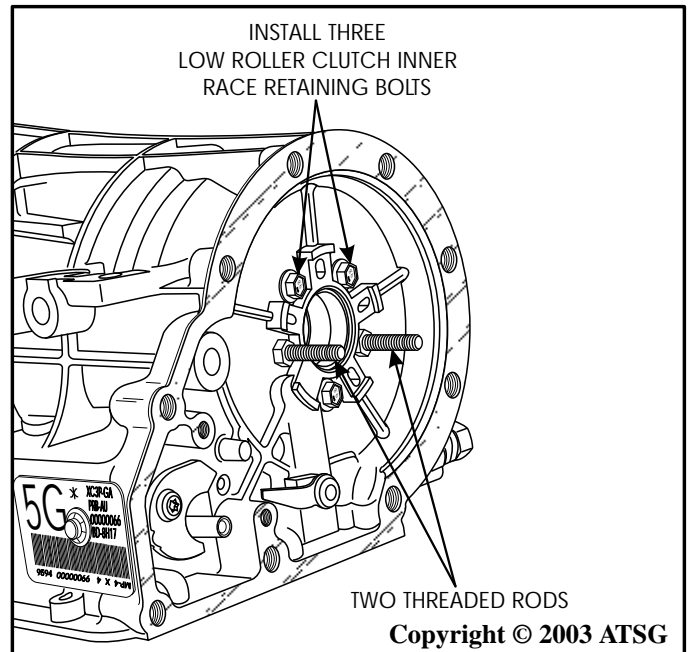

Figure 86
14. Install the low roller clutch inner race in case, as shown in Figure 86, and install two nuts on the threaded rods.
15. Tighten the nuts to compress the reverse clutch return spring assembly, as shown in Figure 86.
16. Install 3 low roller inner race retaining bolts, as shown in Figure 86, and remove the 2 threaded rods and nuts.